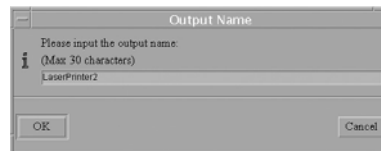

Figure 3-54: New Output Name Dialog Box
2. Enter the name you want to use for this Output (for example, LaserPrinter2) in the *Output Name* dialog box (Figure 3-54).